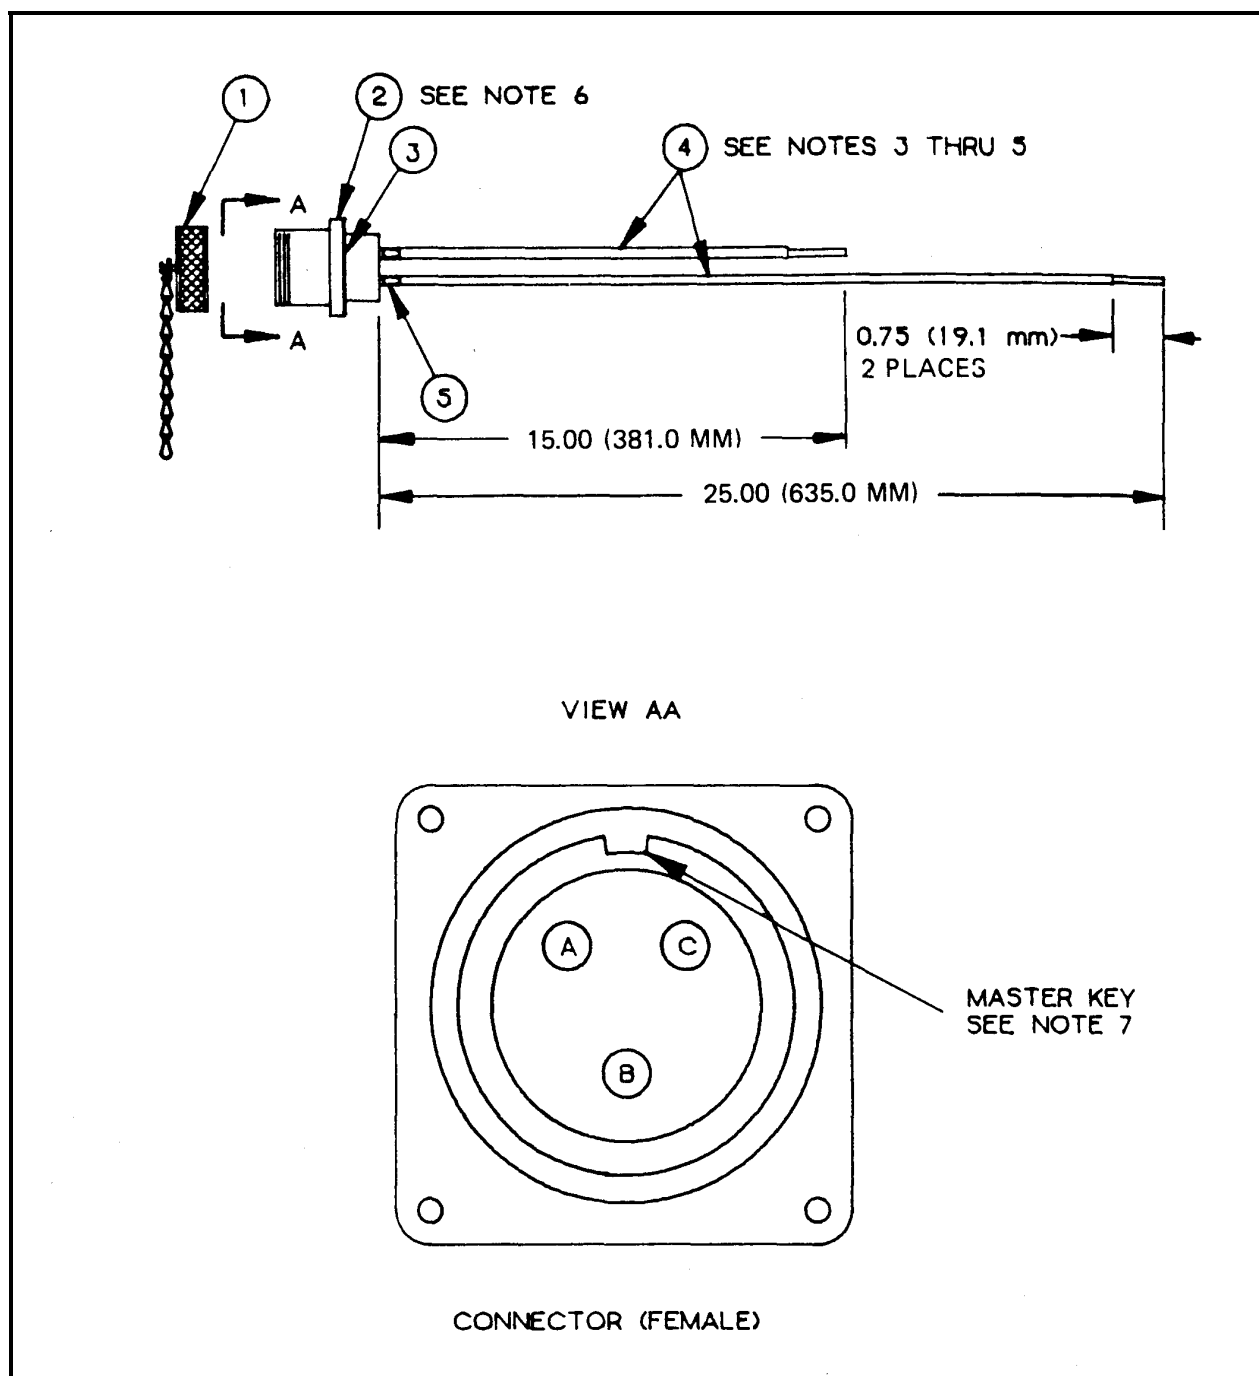

Figure F-35. M100 A/P (PDISE) 20-Amp, Output Connector Assembly, (J7)
F-35 M100 A/P (PDISE) 20-Amp, Output Connector Assembly, (J7)**Component Legend for Figure F-35**
- c. Electrical connector (Figure F-35, Item 2) is furnished with the following: